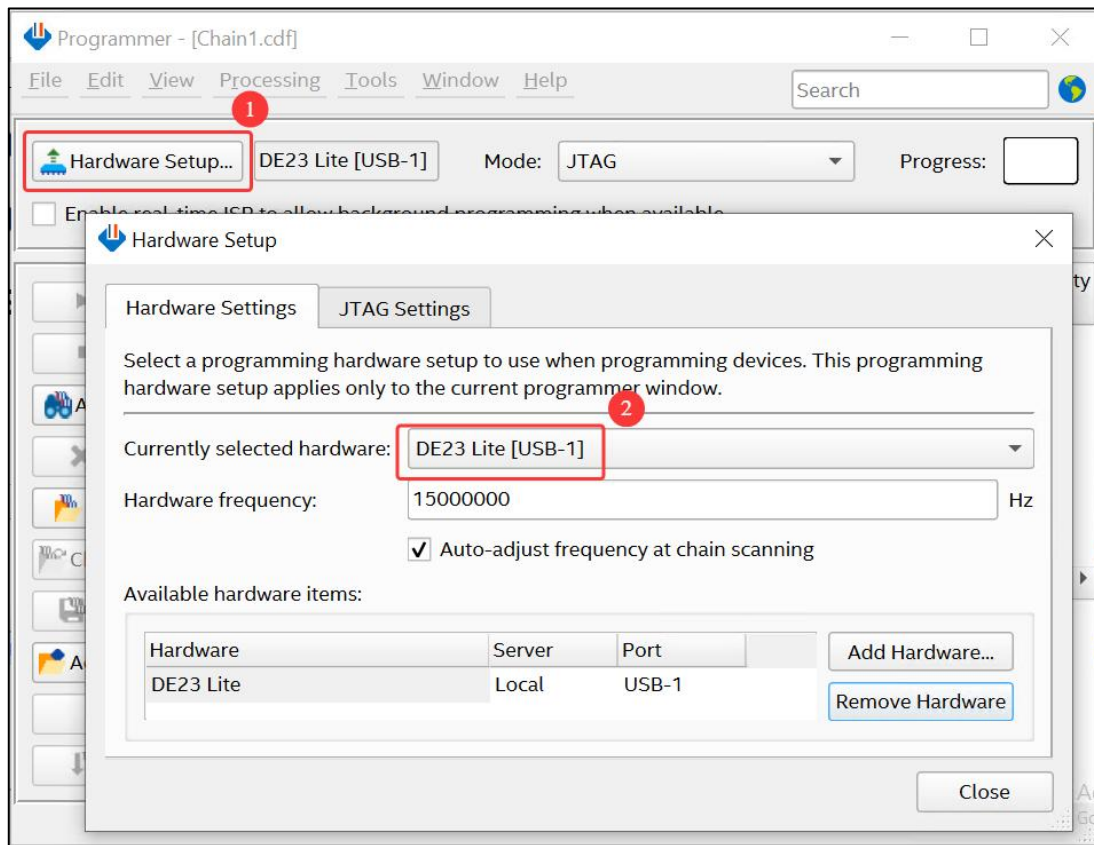

Figure 3-3 USB blaster III is found in Programmer
2. Set MSEL to 11(JTAG programming mode), use a Type-C USB cable to connected the board(J3) to PC, and plug the 5V DC adapter to J5. Open the Quartus Programmer tool, make sure the USB blaster III (“DE23-Lite[USB-x]”) is found in “Hardware Setup..” tab(as shown in **Figure 3-3**).